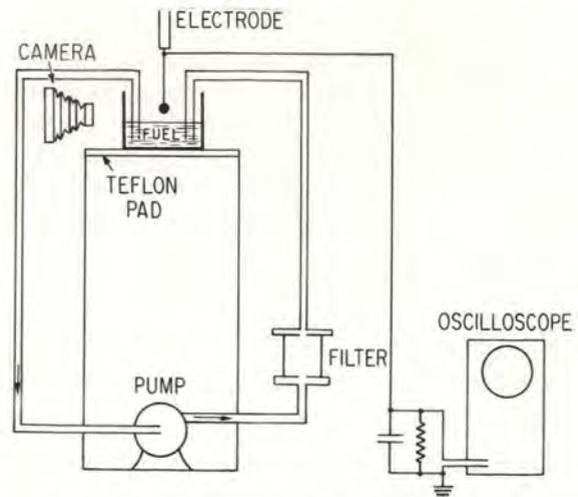

Figure 4. Apparatus Used to Study Discharges from Fuel Surfaces.
The big question is: Why? What is so distinctive about discharges from a charged fuel surface that they seldom produce explosions? To find answers to these questions, scientists at the Naval Research Laboratory have developed an apparatus (Figure 4) capable of producing sufficient charge on a fuel surface to break down spark gaps of up to 15 centimeters. Fuel (in this case JP-5) was circulated through a filter and into an insulated polyethylene tank, where discharges from the fuel surface to a grounded electrode could take place. The discharges were photographed through a window at the side of the tank and the quantity of charge transferred was measured with an appropriate circuit.
A. The letters "MRA" and the appropriate minimum reception altitude will be positioned in close proximity to the fix to which the MRA applies. If the fix is also a designated reporting point, a "flag" symbol containing an "R" will be attached to the reporting point. This is shown in Figure 4 at the GAMMA MA fix.
A. You must comply with an MRA whenever it is necessary to utilize a crossing radial to identify a fix. However, a DME fix arrow ($\overline{15}$ or $\overline{\quad}$) at a fix where an MRA is depicted, indicates that the fix may also be identified with DME. If DME is used to identify the fix, as shown in Figure 4 at GAMMA, REEDSPORT and SCOTTY reporting points, the MRA will not apply since it is not necessary